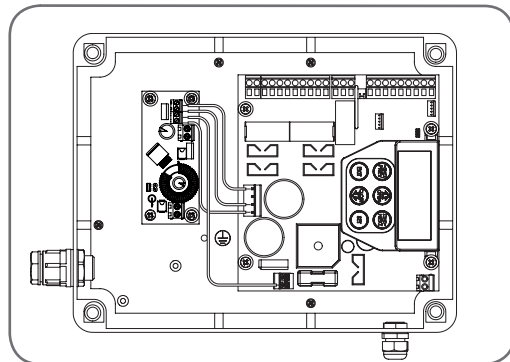

Fig 05
3. The angle to tilt the solar panel for maximum exposure to the sun is determined by the following equation (Fig. 05):
3. Mount the Charger Board on the Control Box's base using four brass spacers and four (4) M4x8 screws (Fig. 05).